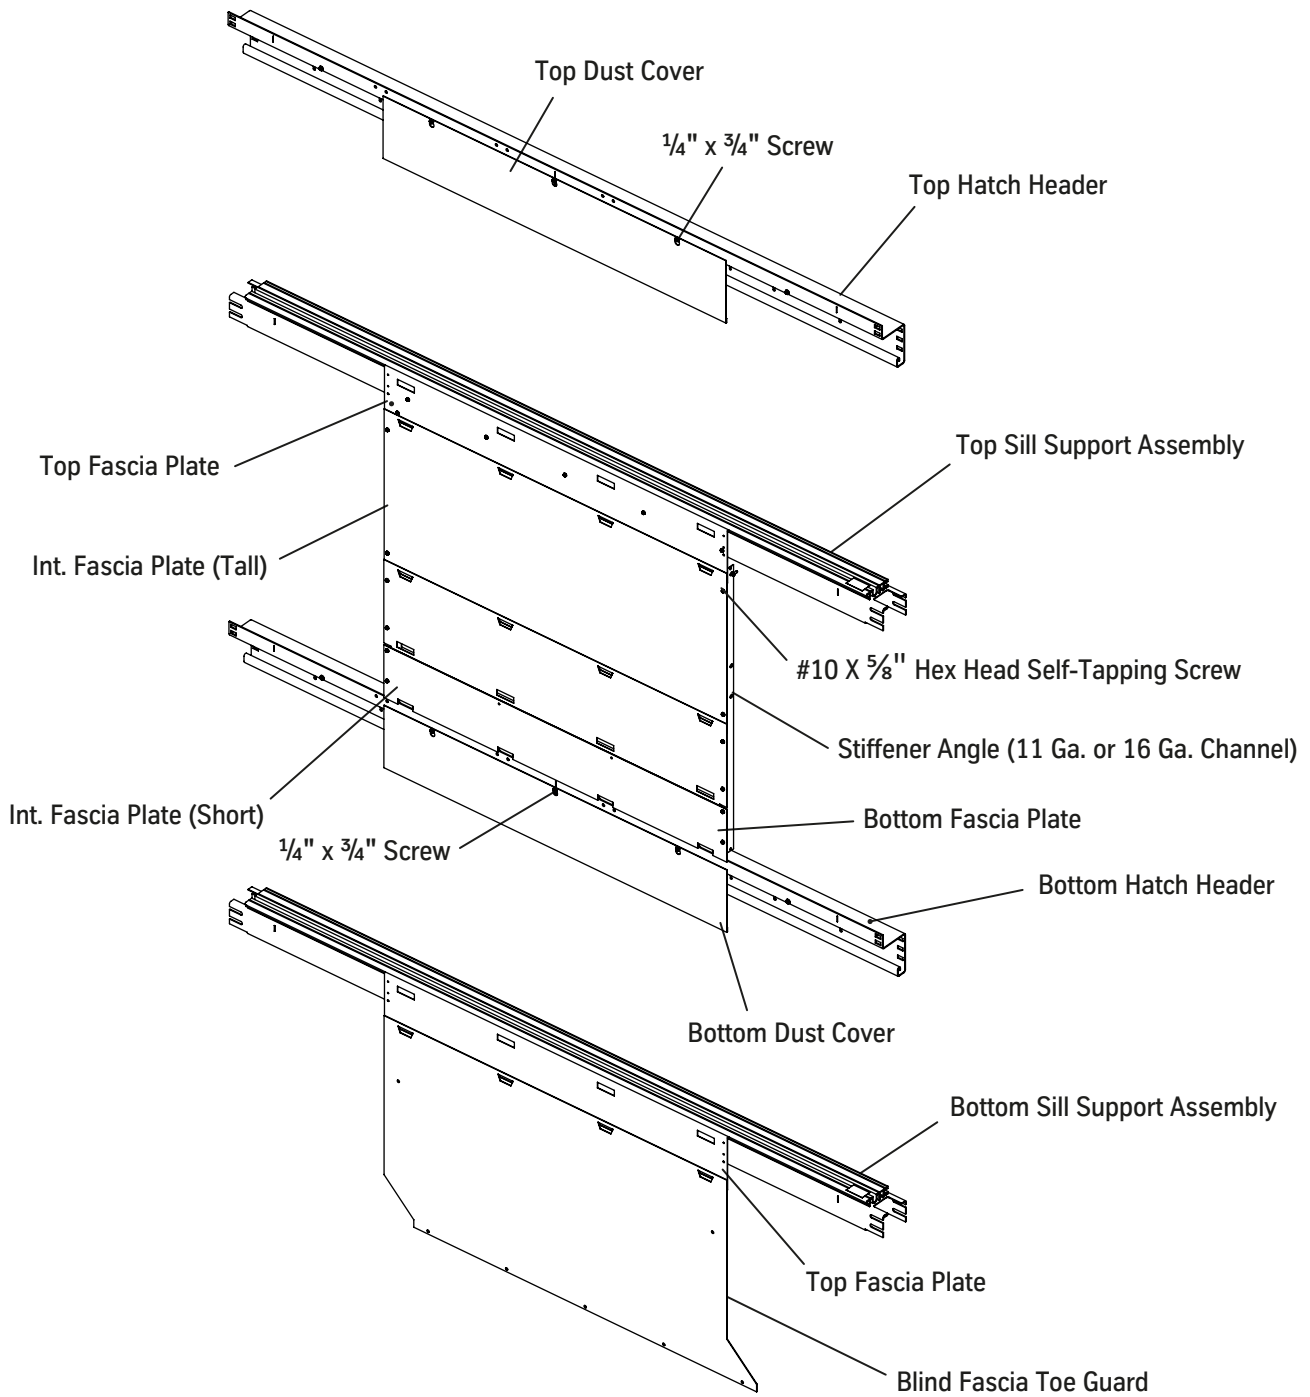

Figure 22 - Install Fascia Plates, Dust Covers, and Toe Guards (1 of 4)
2. Center a top fascia plate in the opening, and hook the fascia plate onto the hoistway sill of the top landing. See Figure 22 on page 34 through Figure 24 on page 36.